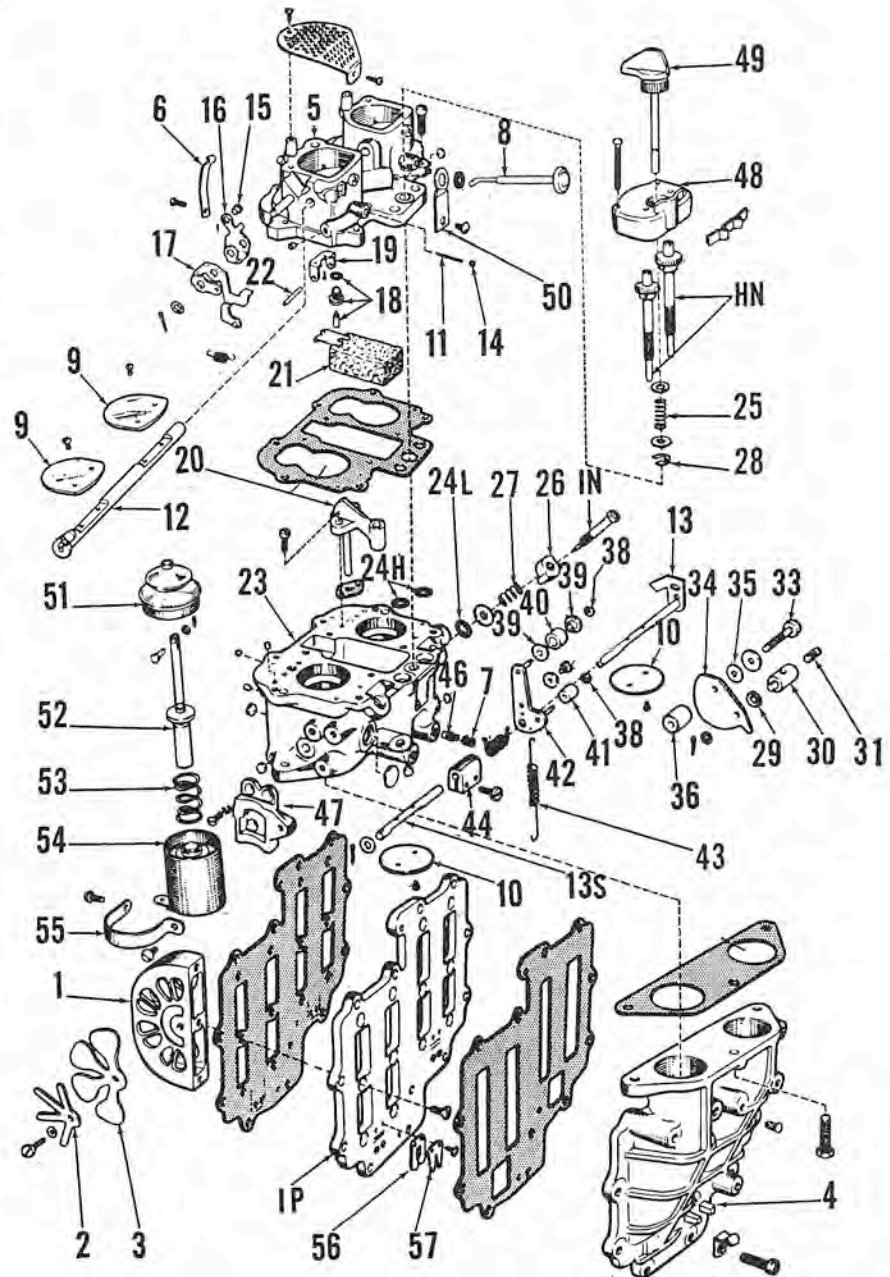

Fig. J75—Exploded view of carburetor, intake manifold and reed valves used on 50 hp models. Carburetor is equipped with solenoid operated electric choke.
**CARBURETOR.** A two barrel, down draft type carburetor is used. Each barrel is provided with its own low and high speed adjustment needles and functions independently of the other barrel to mix fuel and air for the two cylinders on one side of the motor. Refer to Fig. J75 or J76. Normal initial setting for low speed mixture needles (IN) is 1½ turns open. Initial setting for high speed mixture adjustment needles (HN) is ⅝-turn open. Clockwise rotation of all needles leans the mixture. Idle mixture needle knobs (26) permit turning the needle only part of a turn for final adjustment. To make the initial adjustment (or a major adjustment) on early models, push knob down against pressure of spring (27—Fig. J75) until it clears hex head of needle; then turn needle with a screwdriver. On later models, remove the retaining screw and knob.
The two high speed mixture needles on all models so equipped are synchronized by gear on lever (49—Fig. J75 or J76) so that operating adjustment can be made simultaneously for both barrels. To make the initial adjustment or to synchronize the high speed mixture adjustment for the two barrels, refer to Fig. J77. Lift straight up on lever (L) until the gear clears needles and turn lever until pointer is directed forward as shown by broken lines. Pointer will now rest on cover flange and prevent the syn-
Throttle shutters (10—Fig. J75 or J76) can be synchronized to close at the same time. To make the adjustment, remove and invert the carburetor. Close throttle lever (13 or 13P), loosen screw in clamp (44). Hold both throttle plates closed and tighten clamp.
**Fig. J76—Exploded view of carburetor and associated parts used on 1960 models. Later models are similar except that high speed jets are fixed and not adjustable. Refer to Fig. J75 for legend except for the following.**
**REED VALVES.** Four sets of reed valves are used, one set for each cylinder. Refer to Figs. J75 and J76. On motors before 1960, a semi-circular inlet valve box was used as shown in Fig. J75. On 1960 and later motors a pyramidal valve box was used as shown in Fig. J76. On both types, reed valves should seat very lightly against inlet valve box (1) throughout their entire length with the least possible tension. Check reed petal seating visually. NOTE: Reed petals may stand out away from valve box a slight amount. Renew reed petals if broken, cracked, warped, rusted or bent. A broken reed petal is sometimes caused by a damaged or bent reed stop (2). Seating surface of valve box (1) should be smooth and flat.
**CRANKCASE BLEEDER VALVE.** All models are equipped with a crankcase bleeder valve (56 & 57—Fig. J75 or J76), designed to remove any liquid fuel or oil which might build up in crankcase. One such valve is provided for each pair of cylinders. These reed type valves provide smoother operation at all speeds and lessen the possibility of spark plug fouling during slow speed operation. There is a small passage leading from each crankcase to a bleeder valve. Any condensed liquid accumulates in the bleeder pocket and passage until the piston travels its downward stroke. The